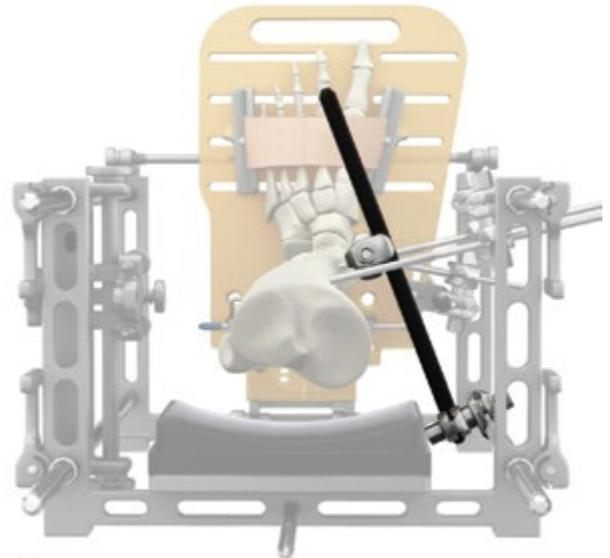

Fig. 27
- Position the Carbon Fiber Rod through the clamps and tighten (Fig. 27).